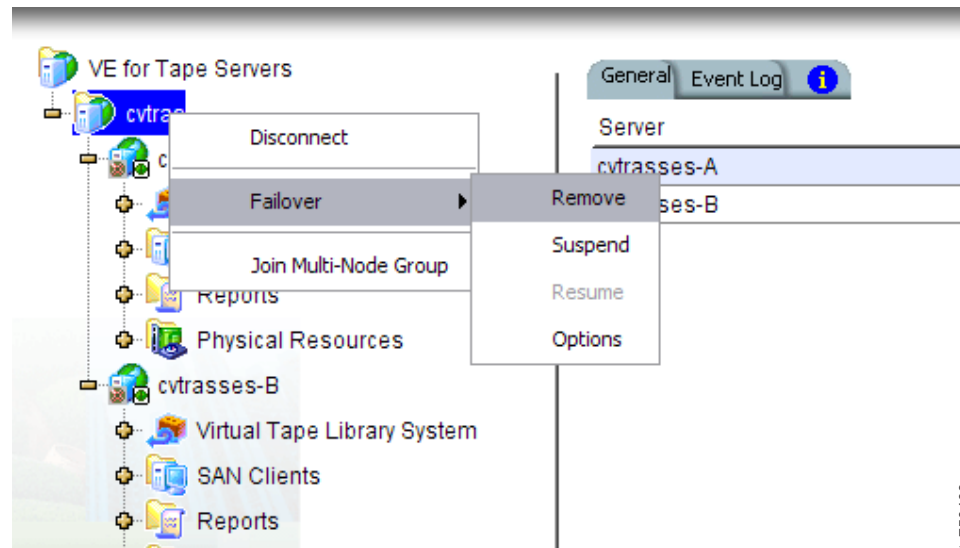

Figure 49. Selecting the failover group to remove failover
1. Right-click the failover group name icon and click **Failover > Remove**. See Figure 49.